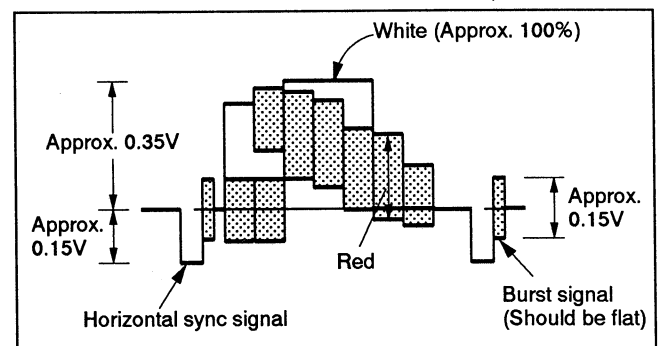

Fig. 9-2. Color Bar Signal of the Pattern Generator
As the video signal obtained from the pattern generator is used as an adjustment signal during electric adjustments, ensure that this video output signal is within the specification. Connect the oscilloscope to pin ② of IC151 on the VS-116 board, and check that the amplitude of the sync signal of the video signal is approximately 0.15V, the amplitude of the video section is approximately 0.35V, the amplitude of the burst signal is approximately 0.15V and flat, and that the level ratio of the burst signal and the [red] signal is 0.30: 0.66. The video signal (color bar) used for electric adjustments is shown in Fig. 9-2.